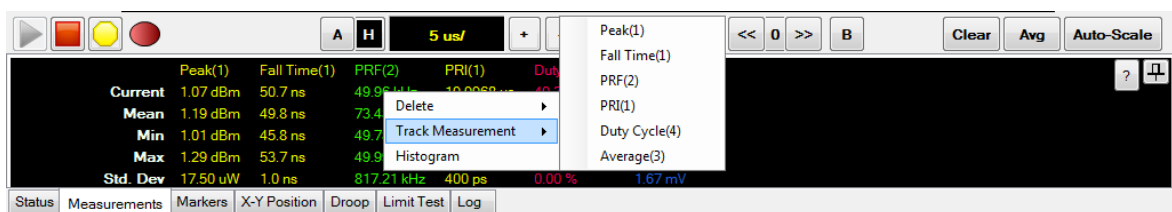

Figure 2-108 To track the measurement results on the multi-purpose pane
- 3 To track a specific measurement, select the Measurement view area to display the **Track Measurement** menu and select **[measurement function]** to track it as shown in Figure 2-108.